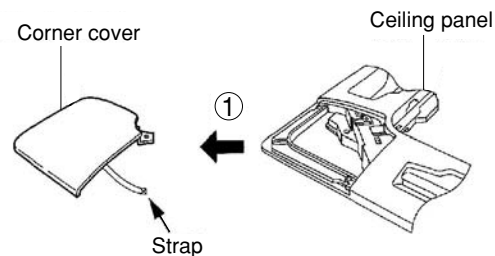

Fig. 9-6
- (2) Removing the corner cover
- a) Slide the corner cover to the direction shown by the arrow ① to remove the corner cover. (Fig. 9-6).